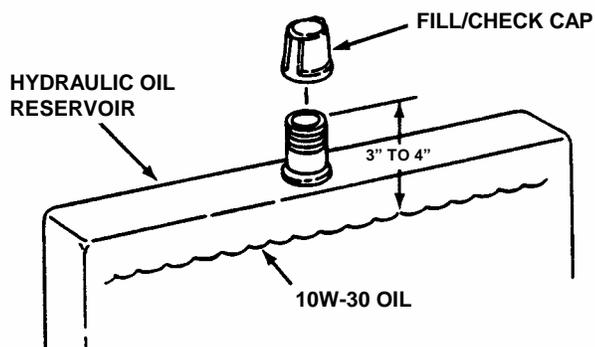

FIGURE 3.1
**3.1.1. HYDRAULIC OIL RESERVOIR:** Use SAE 10W-30 oil. Fill reservoir with oil until the level comes to within 3 to 4 inches from the top of the filler neck. See Figure 3.1.